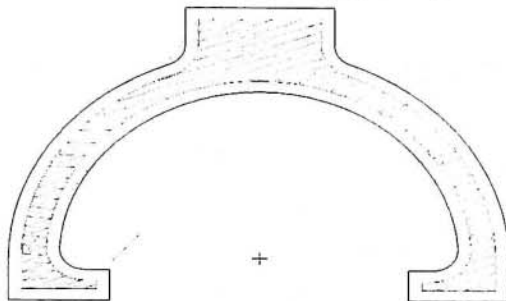

Figure 7.25
- **Zig Mode** This mode generates a set of linear toolpaths similar to the zigzag method. The difference is that this is a one-way method. It generates toolpaths that cut in the same direction. They make a pass, then retract in the Z direction, rapid to another starting point and take another pass in the specified direction. The toolpath pattern is repeated until the pocket cutting is completed (Figure 7.25).